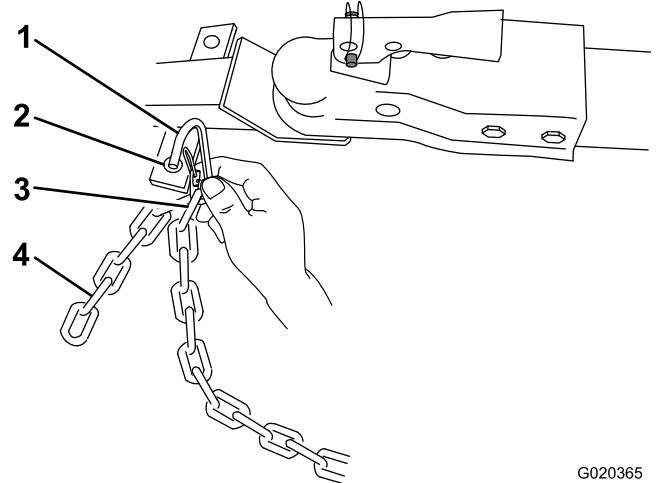

Figure 28
Note: For end-dump models, connect the connecting links to the appropriate links in the safety chain (Figure 28). If the excess chain hangs too low and touches the ground, connect it again to the connecting link to raise it away from the ground.
3. Connect each length of chain to the safety chain mounting point on the tow vehicle with the connecting links (Figure 28).